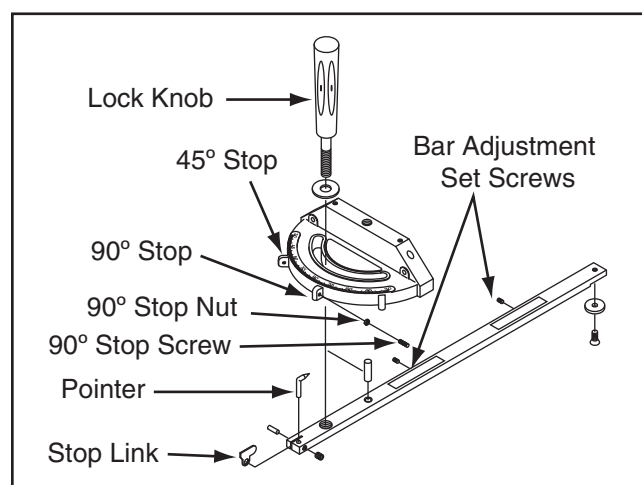

Figure 122. Miter gauge features.
The miter gauge (see **Figure 122**) is equipped with stop screws that allow you to easily adjust the miter gauge from 45° to the left, 90°, and 45° to the right. The stop screws contact a stop link, which moves in or out of the way for adjustments. Also, a pair of set screws can be adjusted so the miter bar is snug in the T-slot.
3. Loosen the miter gauge lock knob, raise the stop link (see **Figure 122 above**) all the way up.